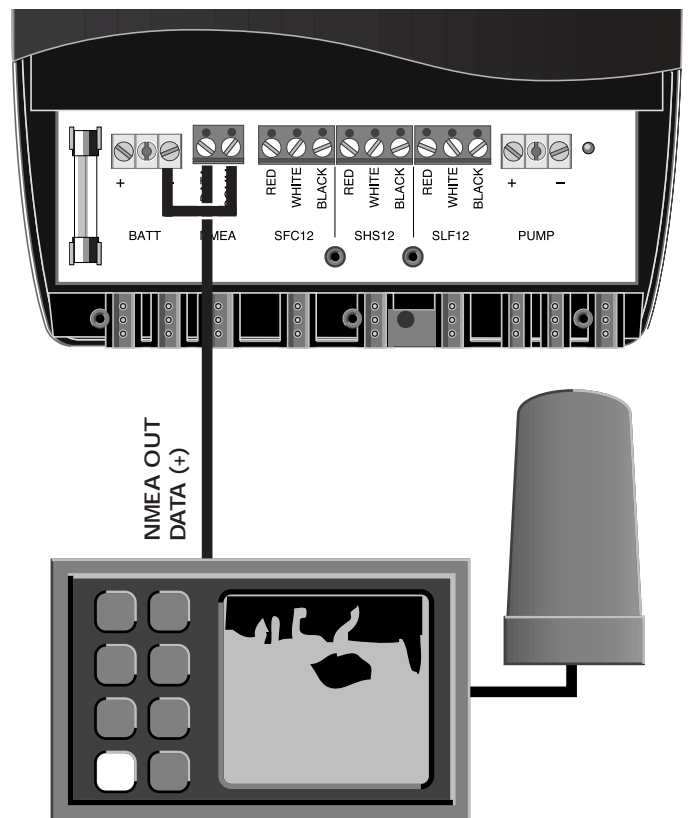

Fig 4.20 - Connecting using NMEA interface :
- If the equipment does not have a NMEA Common (or -) connection, the NMEA Common terminal of the SCP12 course computer should be connected to ground by linking it to the BATT - terminal (Fig 4.20).